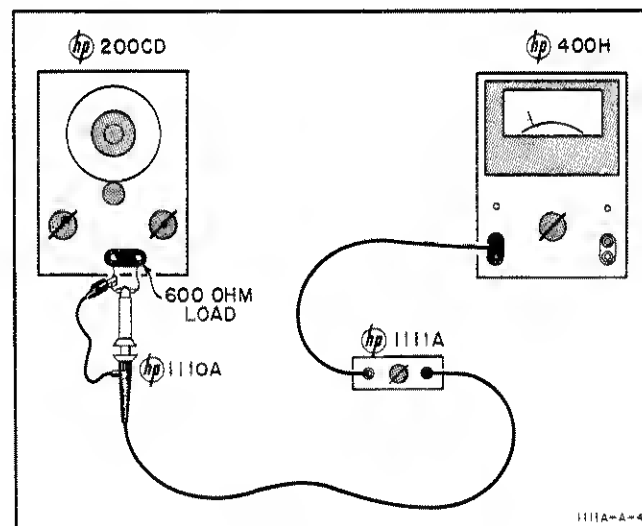

Figure 5-2. Oscillator-Voltmeter Test Setup
- Refer to Table 5-1 and Figure 5-2 and connect test equipment. Items required are 2, 3, 4 and 9.
a. Refer to Table 5-1 and Figure 5-2 and connect specified equipment, items 2, 3, 4 and 9.